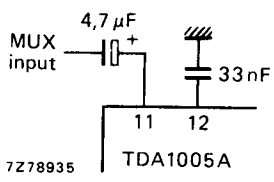
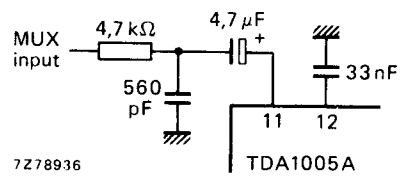

Fig. 13 Without filtering.
Fig. 15 With RC-filter for achieving i.f. roll-off (typ. 62 kHz).
1. For other input structures see Figs 13 to 21; shown here is with RC-filter (Fig. 15).